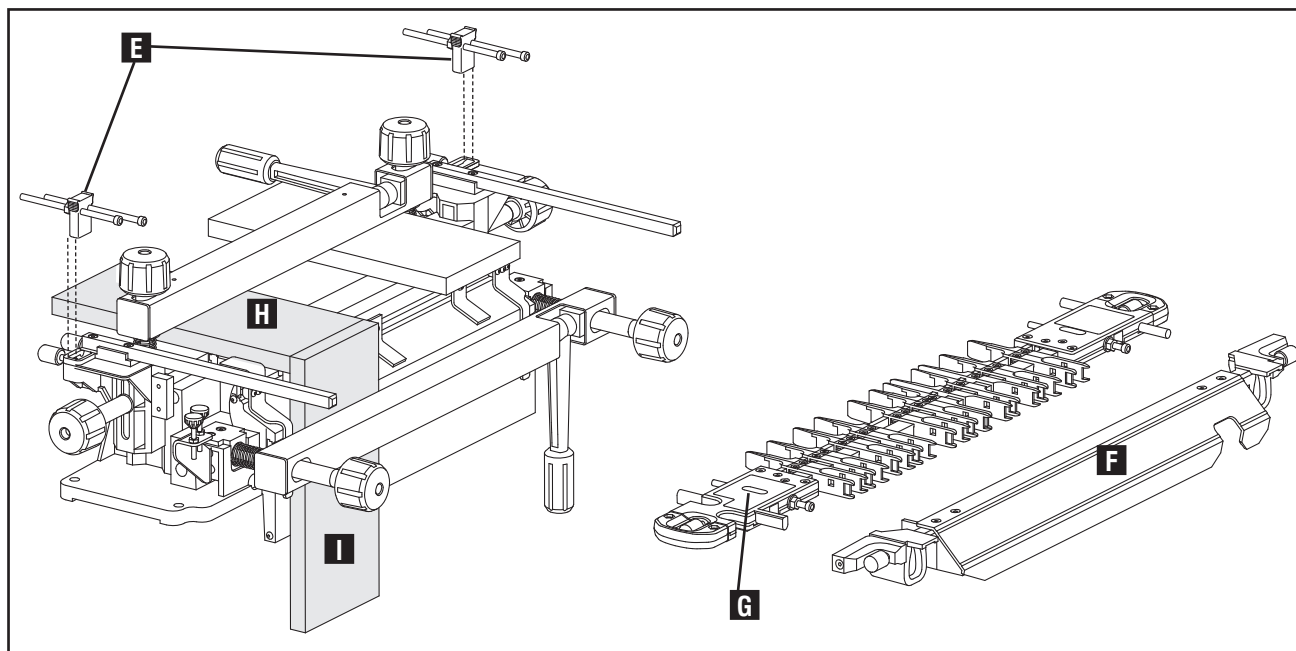

Fig. D5
1. Insert proper stops (E) Fig. D5 according to the Dovetail Setup Guide.
2. Remove stabilizer bar (F).
3. Make sure variable-spaced finger template is mounted onto the rods with the red "A Tails" label (G) facing up to the left side.
4. Mount a scrap board in the horizontal position, as shown at (H). Be sure this board is the same thickness as the pinboard.